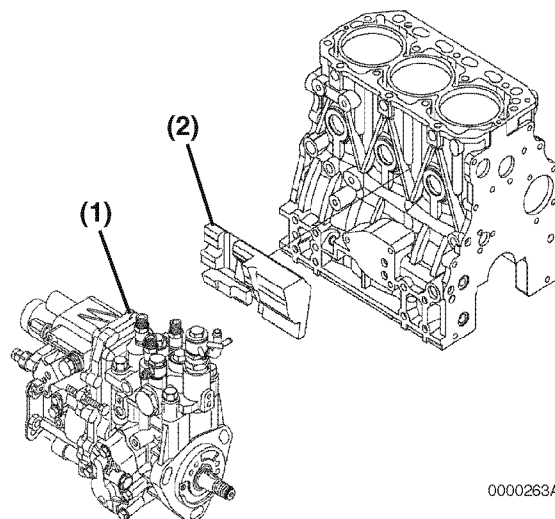

Figure 7-34
12. If equipped, verify the fuel injection pump insulator (**Figure 7-34, (2)**) is not damaged. Reinstall the insulator and intake manifold if previously removed.